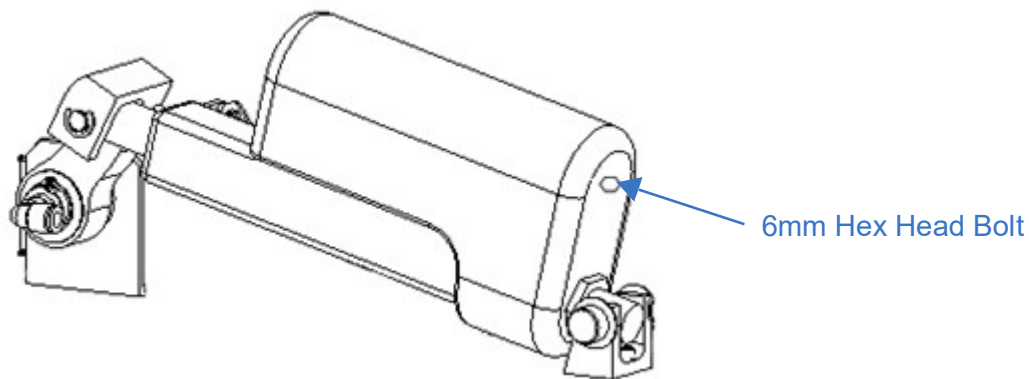

Figure 6-3 Actuator Override for Manual Retraction
4. Remove the 6 mm hex head bolt on the end of the actuator cover (Figure 6-3). This bolt acts as a cap/seal and when removed exposes the manual actuation shaft in the actuator.